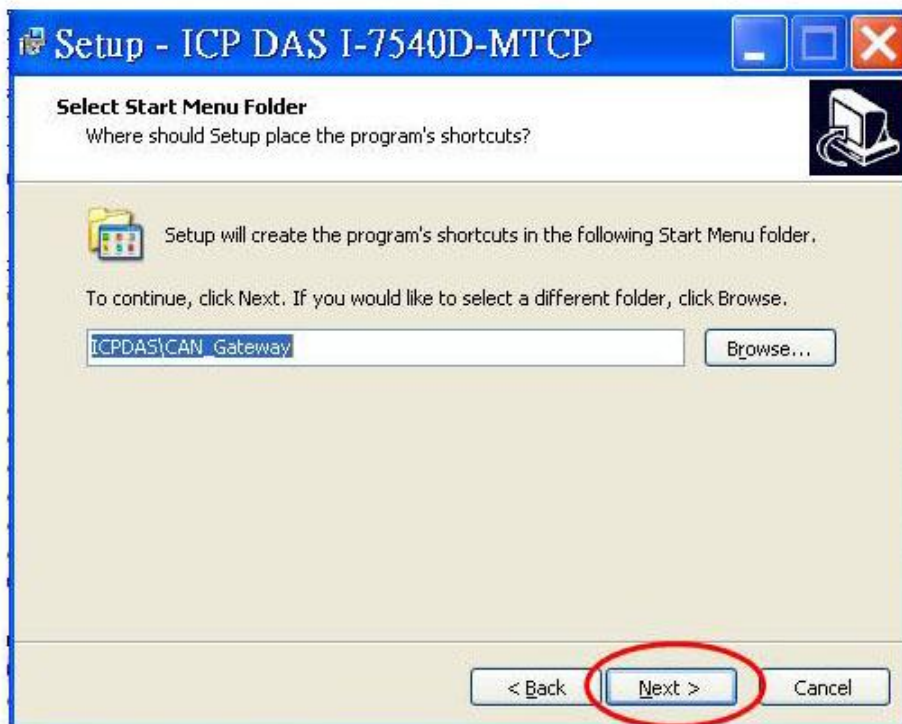

Figure 3-4: "Ready to Install the Program" dialog
**Step 5:** Click "Next" button and a "Ready to Install the Program" window will pop up to prompt user that the wizard is ready to begin the installation. See figure 3-4.